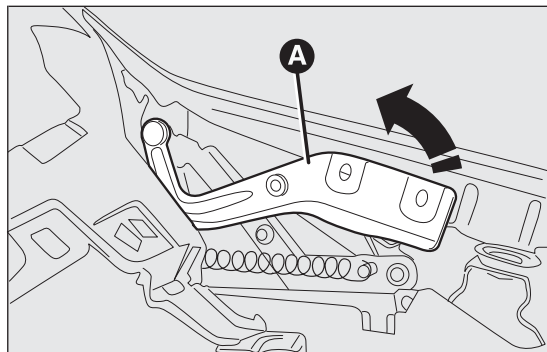

fig. 84
- ☐ lift the engine bonnet supporting lever A fig. 84 and move it until it clicks.